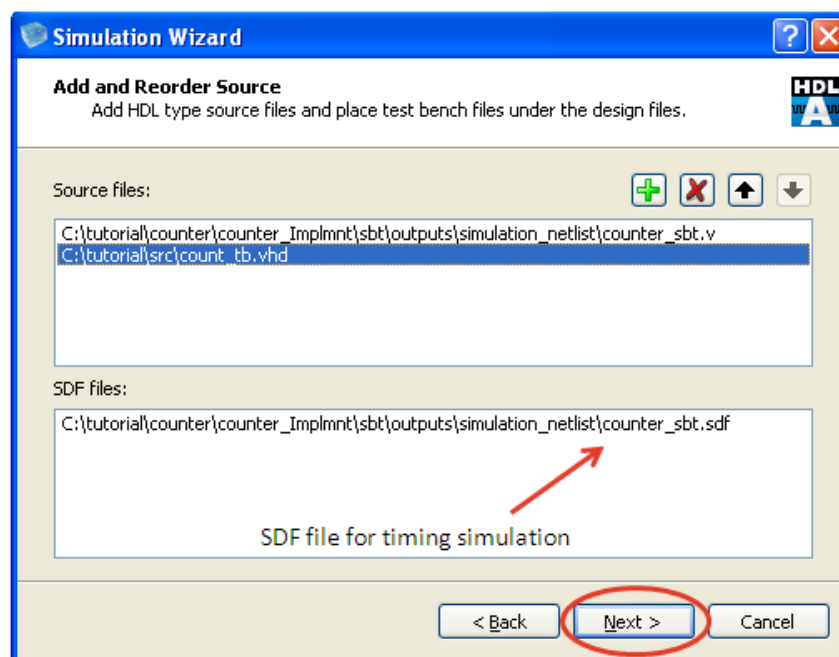

Figure 10-18 : Add Test bench File.
4. The simulation wizard automatically adds the post routed netlist "**counter_sbt.v**" in "Source files" panel and the verilog delay format file "**counter_sbt.sdf**" under "SDF files" panel as shown in Figure 10-18. Click on "+" icon to add the "**count_tb.vhd**" test bench to the "Source files" panel. Click on "Next".